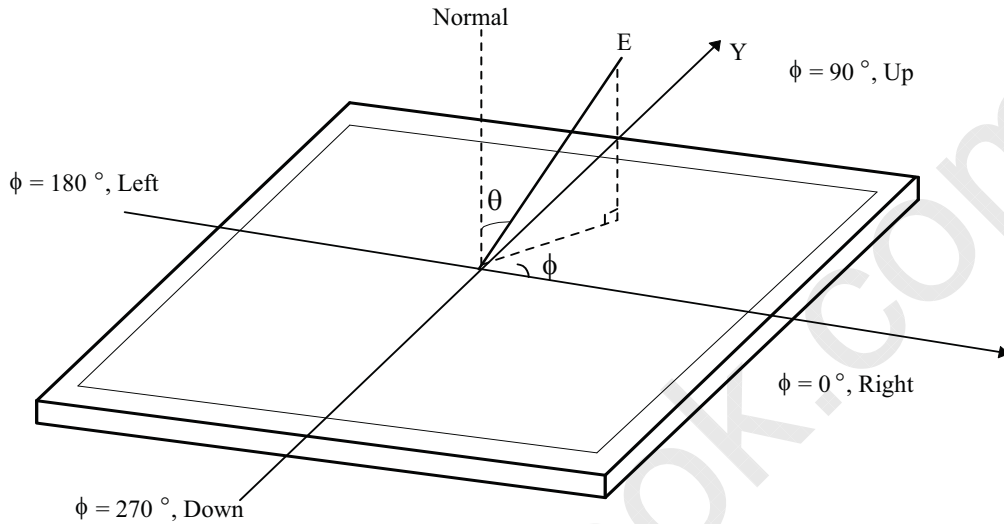

FIG. 4 Viewing Angle
- Viewing angle is the angle at which the contrast ratio is greater than 10. The angles are determined for the horizontal or x axis and the vertical or y axis with respect to the z axis which is normal to the LCD surface. For more information, see FIG 4.